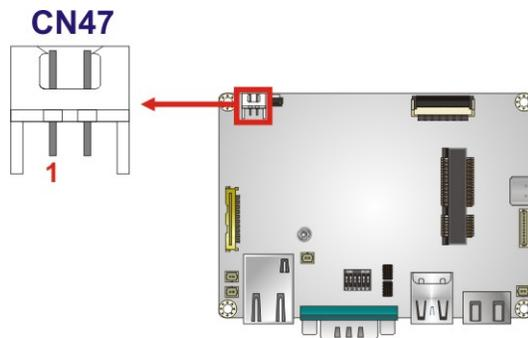

Figure 3-12: Power Connector Location
- CN Location:** See **Figure 3-12**